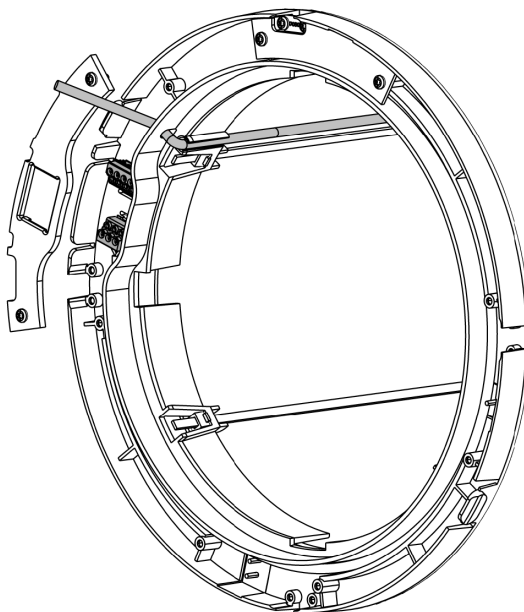

Figure 26 - 24V cable routing
1. Remove the cover over the wire terminal in the upper left. Route the cable from the outside hood to the internal part; then lead the cable into the cable holder in the wall cover; and finally through the hole, see Figure 26 below.